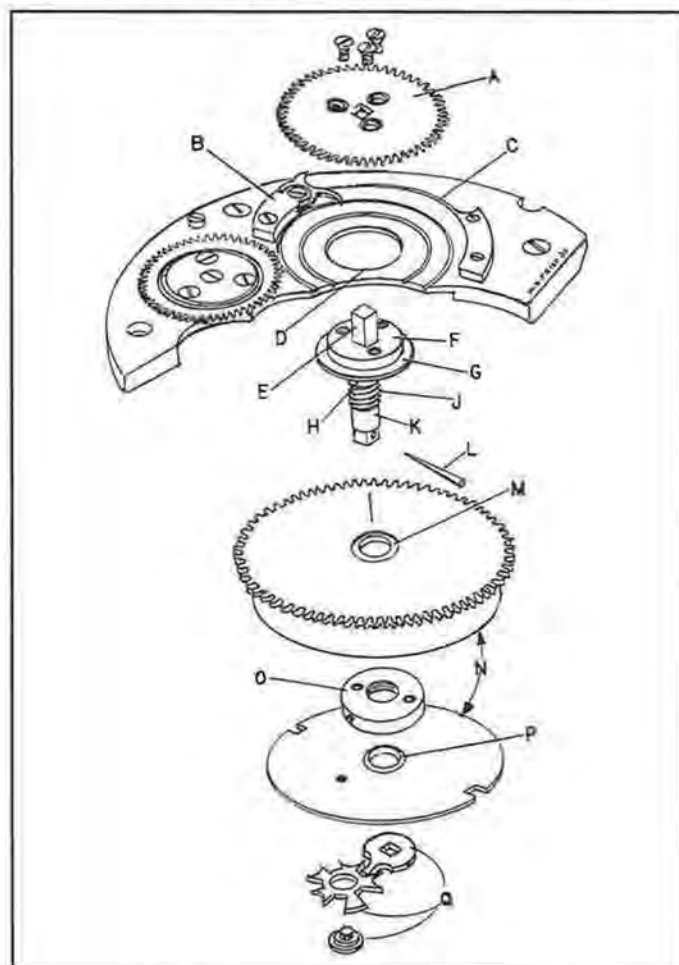

Figure 3.
Our model is a Henry Capt, a very well-known maker of the late nineteenth century. This model is shown in our exploded view (see Figure 3). Many such models also used four ratchet screws to secure it to the barrel arbor (F). While our model had an extension for its square (E), in later models the square was flush with the ratchet wheel.